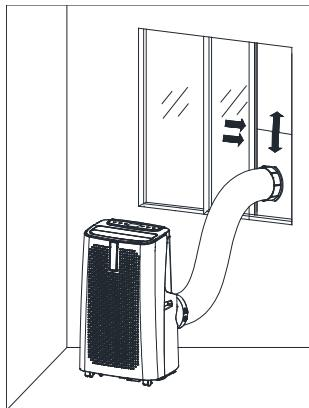

Fig. 6
- 3) Elongate the exhaust pipe and snap the flat end of the exhaust pipe joints into the hole of the window sealing plate assembly (as shown in Fig.6 and Fig.7).